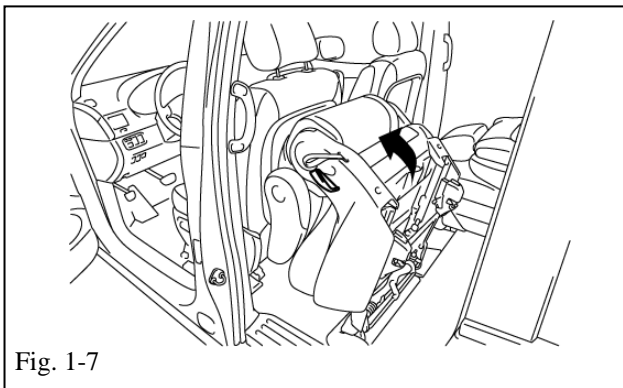

Fig. 1-7
(2) Release using the seatback lever or pull strap and fold the seat assembly forward. (Fig. 1-7)